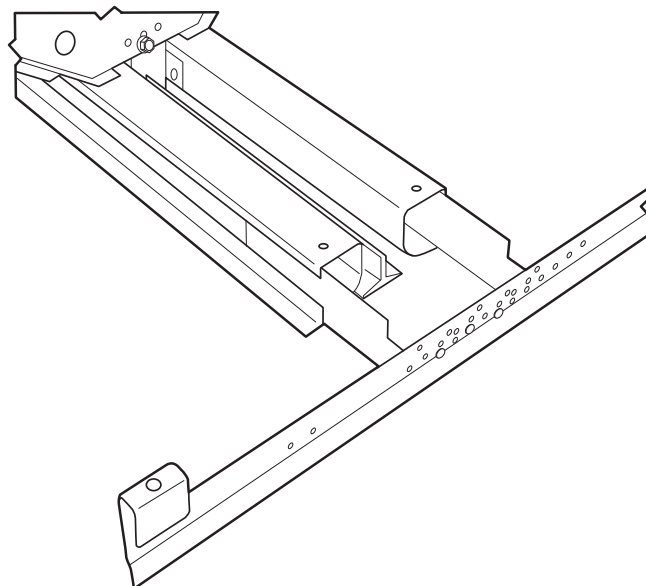

Fig. 14 — Installing T-Bar Mounting Bracket
6. Install T-bar mounting bracket in each end of unit as shown in Fig. 14. Insert bracket in unit side diffusers and push evenly until bracket seats against diffuser end.